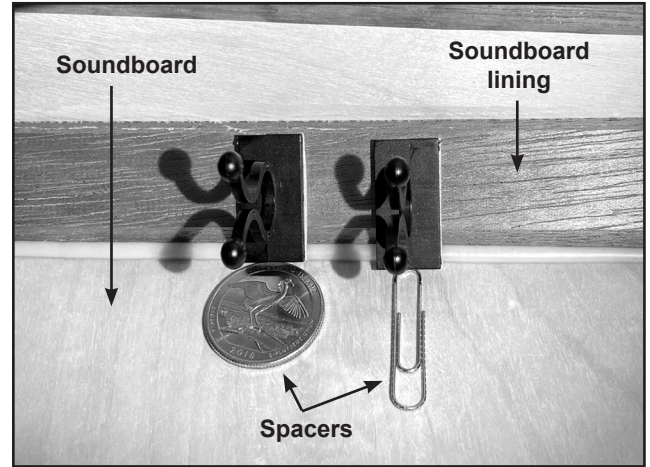

Figure 6 – Spacers
3. Use the spacer to position the bottom edge of the clip up off the soundboard (*see figure 6*).